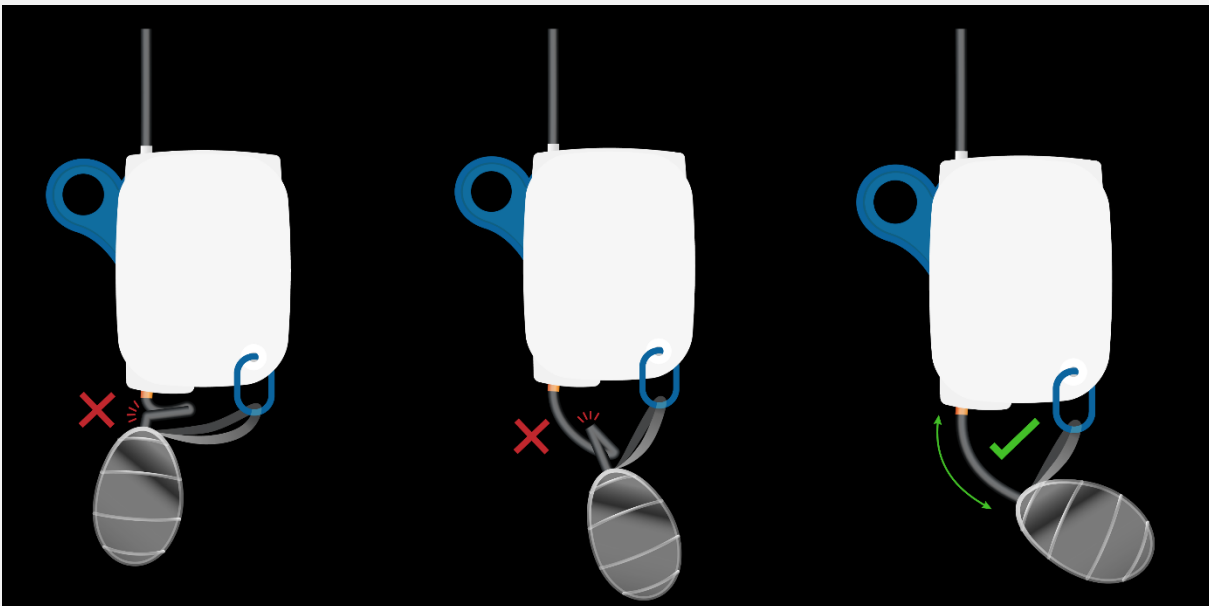

Figure 27: Improper vs. Proper tubing positioning to avoid kinking of flexible tube.
- Always inspect the system to ensure that it is functioning properly. This includes confirming that drainage is flowing as expected through *Origin™* and tubing in the direction of the evacuator, inspection of the patency of the drainage tubing, inspection of the airtight connection sites, and inspection for the presence of any leaks or kinks in the system (See Figure 27).